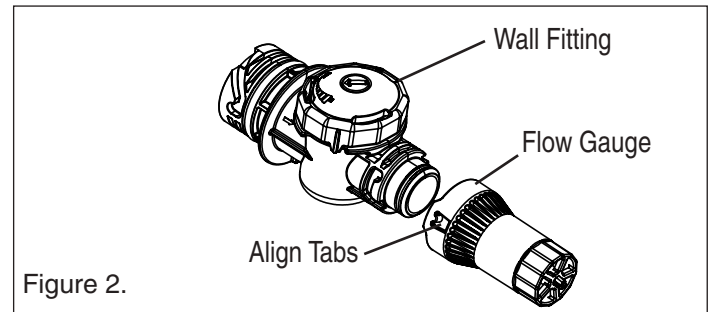
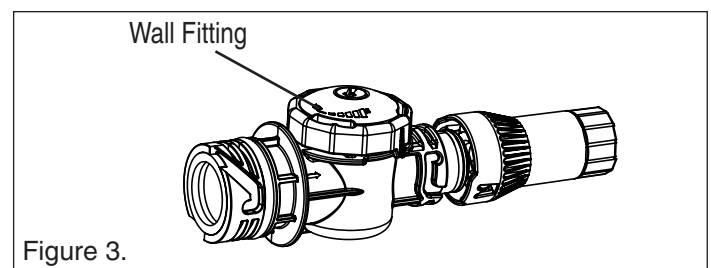

Figure 2.
Figure 3.
1. Attach the flow gauge to the wall fitting by aligning the two tabs on the flow gauge with the grooves in the wall fitting. **See figure 2.** Push and turn the flow gauge clockwise until it stops, then slightly pull it out away from the wall. Be sure the flow gauge is securely locked in place by turning it counterclockwise while slightly pulling out on the flow gauge. **See figure 3.**